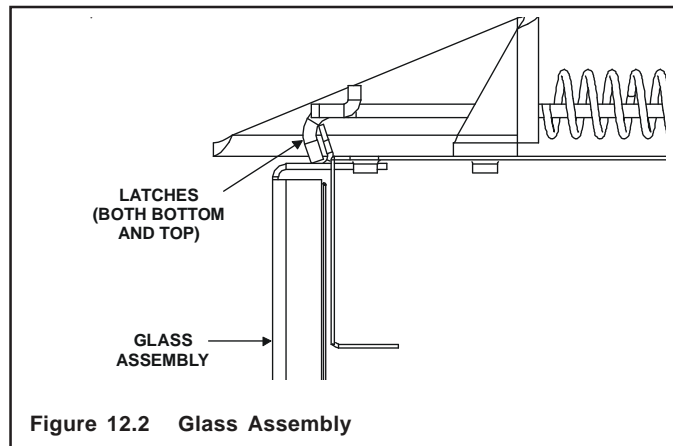

Figure 12.2 Glass Assembly
- When placing Glowing Embers® onto the burner care should be taken so that the ports are not covered. Place the dime-size ember pieces just in front of the port trail, but not on or in between the ports (see Figure 12.2). For best performance place embers on the rear burner ports as shown (see Figure 12.2). Failure to follow procedure will likely cause lighting and sooting problems.
Pull the four glass assembly latches out of the groove on the glass frame. Remove glass door from the appliance (see Figure 12.2).